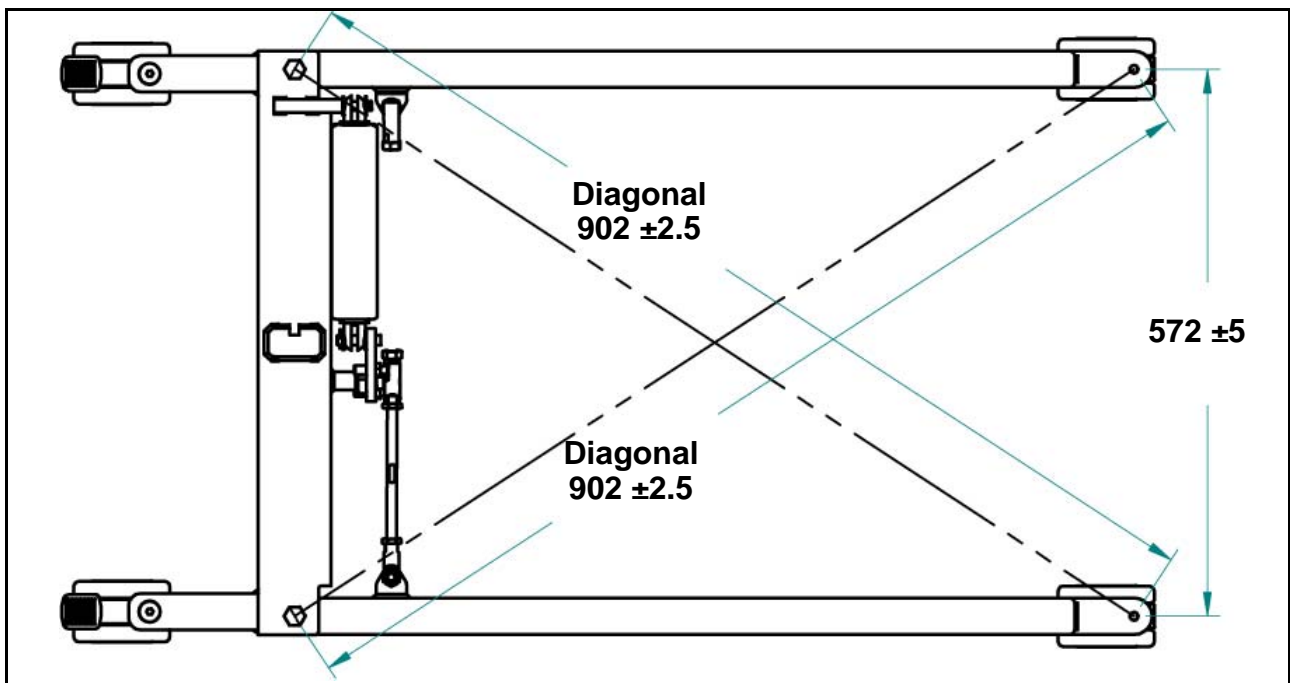

Fig. 19
- 6) Verify the adjustment by measuring the diagonal dimensions in Fig. 19.